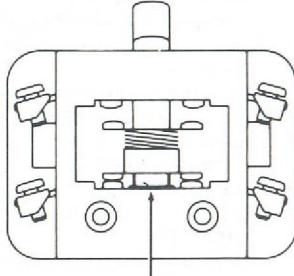

Fig. 3
1. With all power removed, check that auxiliary contact (39) has the proper follow-up. With new auxiliary contacts, the correct operating height is as shown in Fig. 3 when the armature (30) is FULLY CLOSED.
2. Remove fingerboard (32) by removing screws (12) and washers (13).
3. Remove Contact Assembly by removing slotted screws (38).
6. Manually operate the contactor and check the moving contacts for proper follow-up in Fig. 3.